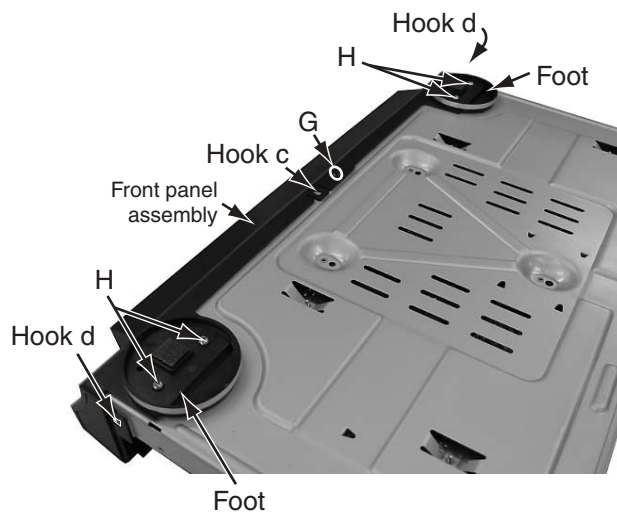

Fig.2-6
2.1.6 Removing the front panel assembly (see Fig.2-6,2-7)